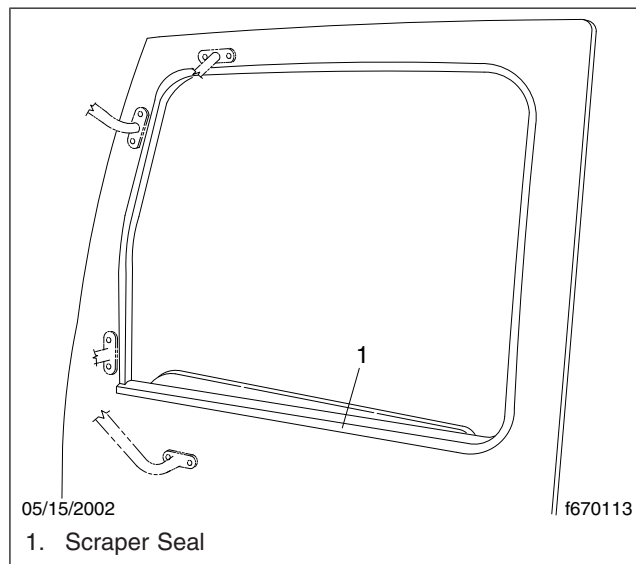

Fig. 5, Cab Door Window
12. Remove the inner and outer window scraper seals by prying them up. See Fig. 5.
9. Install the inner and outer window scraper seals. See Fig. 5.